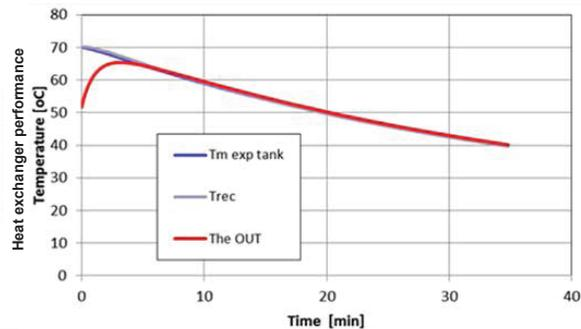

Figure 3
- Almost zero deviation between charging and supply temperature ($\Delta T=1$) (figure 3)